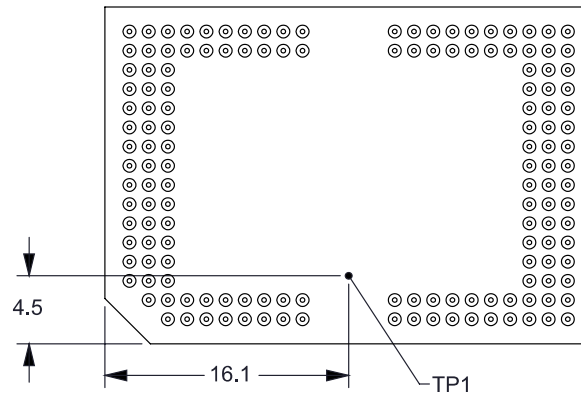

图 7-4. DMD Thermal Test Points
When designing the DMD heatsink solution, the package thermal resistance from array to reference ceramic temperature (thermocouple location TP1 in 图 7-4) can be used to determine the temperature rise through the package as given by the following equations:
- $T_{\text{CERAMIC}}$  = measured ceramic temperature, at the TP1 location in 图 7-4 (°C)
- $Q_{\text{ARRAY}}$  = total power, electrical plus absorbed, on the DMD array (W)
- $Q_{\text{ELECTRICAL}}$  = nominal electrical power dissipation by the DMD (W)
- $Q_{\text{ILLUMINATION}}$  = absorbed illumination heat load (W)
- $Q_{\text{INCIDENT}}$  = incident power on the DMD (W)